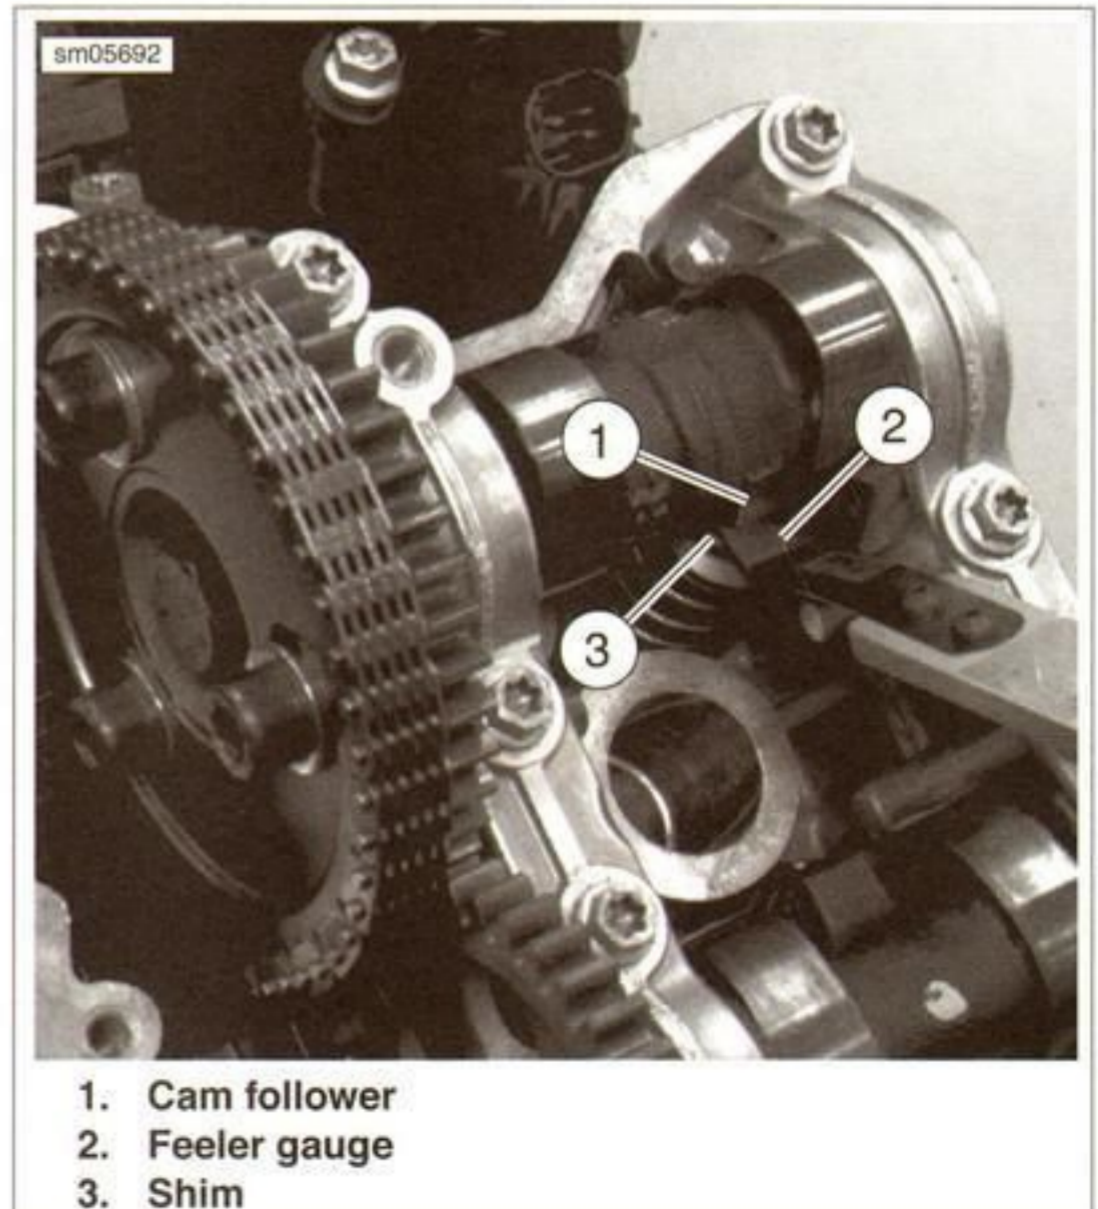

Figure 1-57. Gauging Valve Lash
- b. See Figure 1-57. Using the VALVE LASH FEELER GAUGE (Part No. B-49259) gauge the valve clearance by inserting feeler gauge (2) between cam follower (1) and adjustment shim (3). Gauge will determine if lash is within specifications.